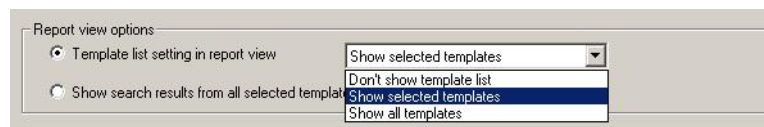

Figure 26. Showing other templates
6. Select how the Snapshot report viewer should visualize and manage usage of other templates as shown in Figure 26: